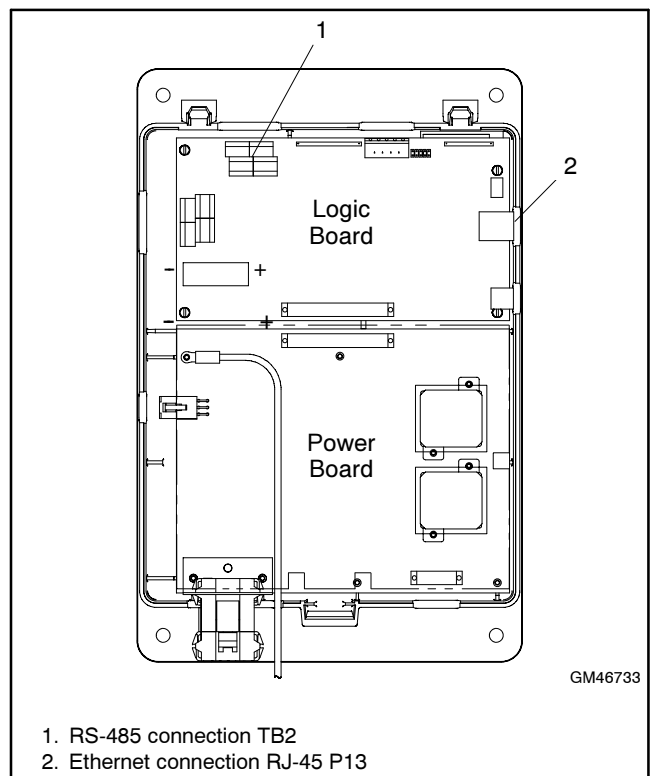

Figure 5-1 ATS Controller, Cover Removed
2. Ethernet connection: Use CAT5 network cable to connect to RJ-45 connector P13 on the controller. See Figure 5-1 for the connector location.
- a. Remove the controller housing cover to gain access to connector TB2.. See Figure 5-1.